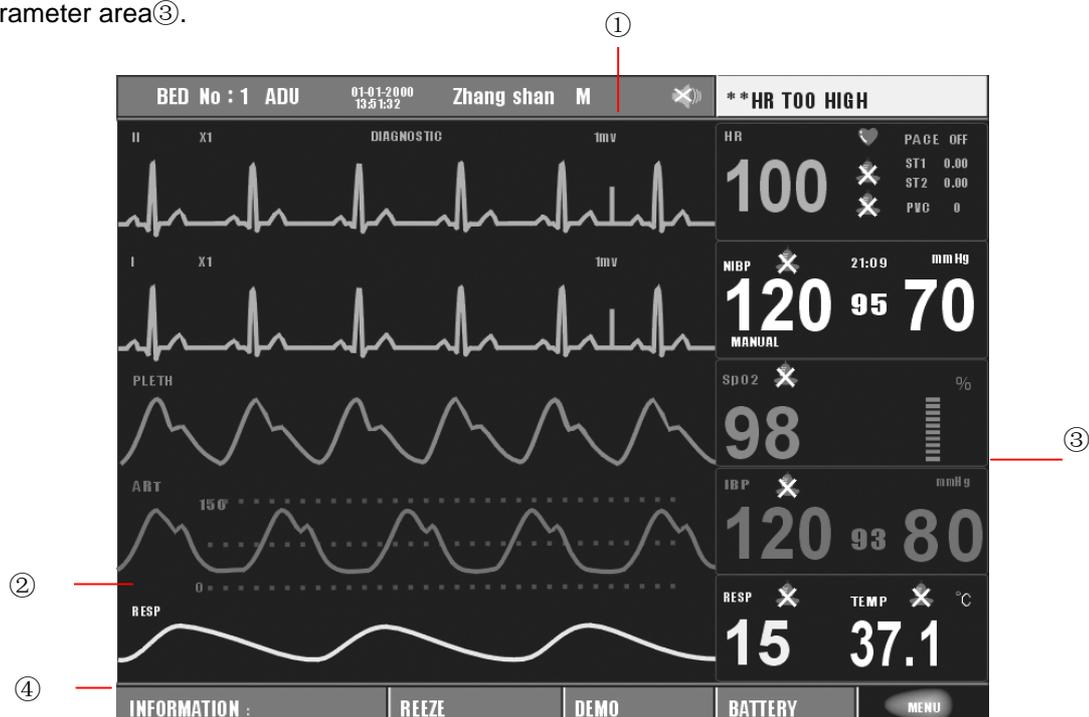

Figure 1-2 PM-8000 Main Display
The screen is divided into three areas(Figure 1-2): Information area①④; waveform area②; parameter area③.